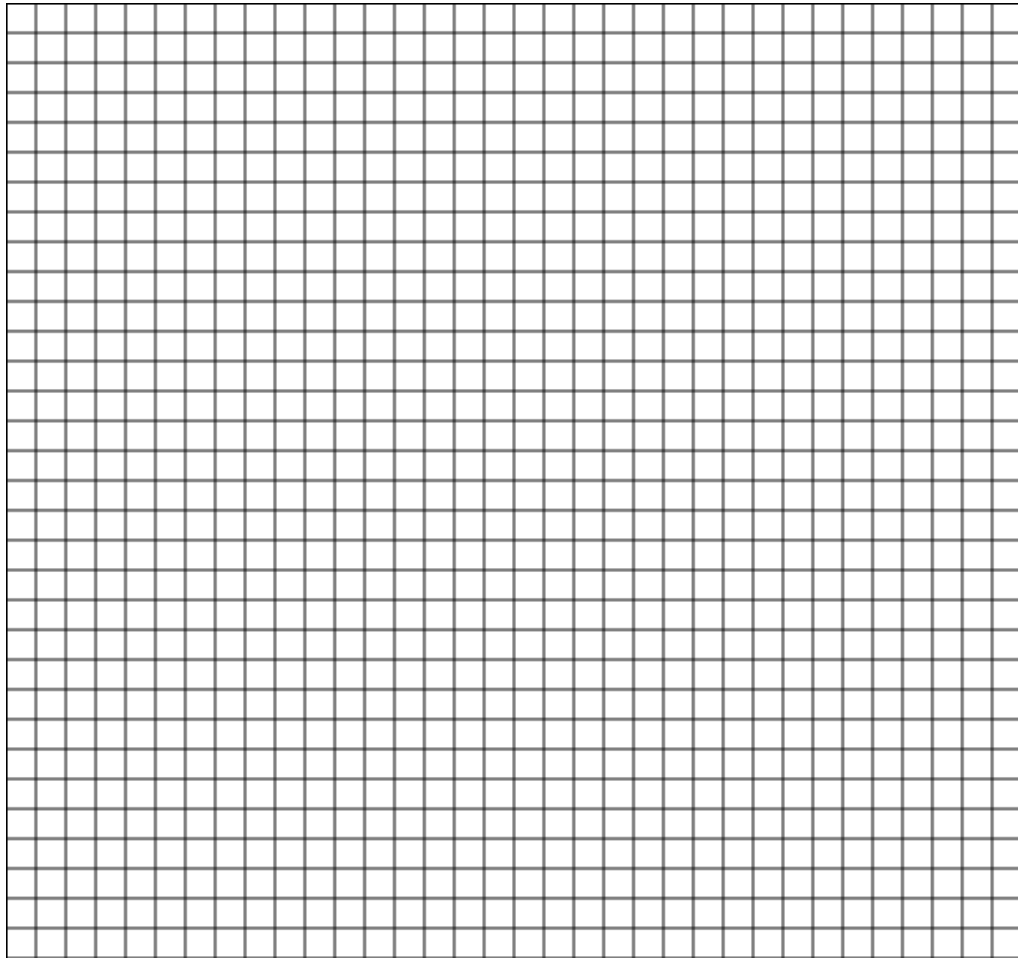

Figure 3
- Plot a graph (use Figure 3 below) of acceleration vs. Δm , using the Part I data (Table 1). Based on your analysis of the graph, what is the relationship between the mass difference and the acceleration of an Atwood's machine? From the slope of your line of best fit, calculate your experimental acceleration due to gravity g_{exp} and record the results in Table 3, first column. Hint: look at what you plotted and compare to Eq. 4.